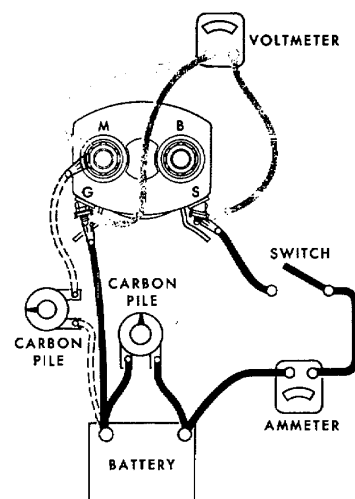

Figure 19-Checking solenoid hold-in and pull-in windings. (Note: Terminal locations may vary.)
SW) terminal and to ground, or to the second switch terminal, (G), if present, to check the hold-in winding (Fig. 19). Use the carbon pile to decrease the battery voltage to the value specified in Service Bulletins IS-180, 1S-186, 1S-187 and IS-188 and compare the ammeter reading with specifications. A high reading indicates a shorted hold-in winding, and a low reading excessive resistance. To check the pull-in winding connect from the solenoid switch terminal (S) to the solenoid motor (M or MOT) terminal. To check for grounds, move battery lead from "G" terminal to solenoid case, and from "M" terminal to solenoid case. (Fig 19, not shown) Ammeter should read zero for both windings. If not solenoid is grounded.